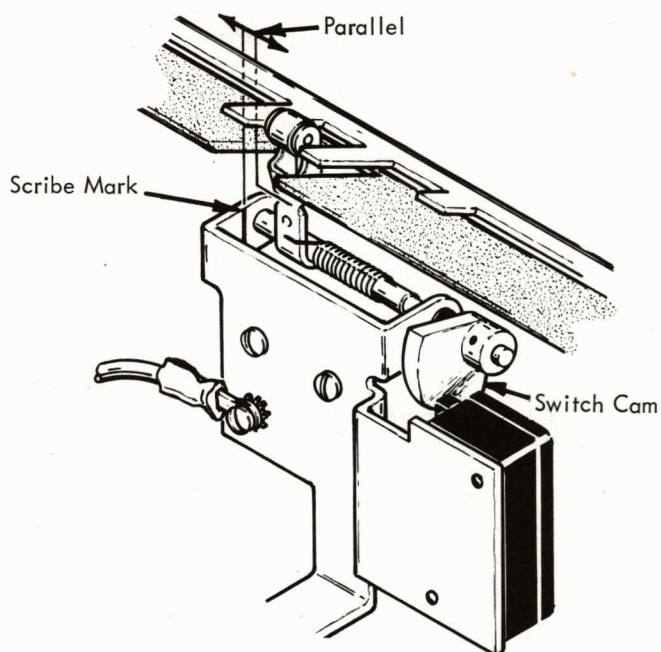

FIGURE 210. End of Forms Contact
- a. Depress actuating roller arm, contact shall transfer before roller arm becomes parallel with scribe mark on end of forms contact bracket (Fig. 210).